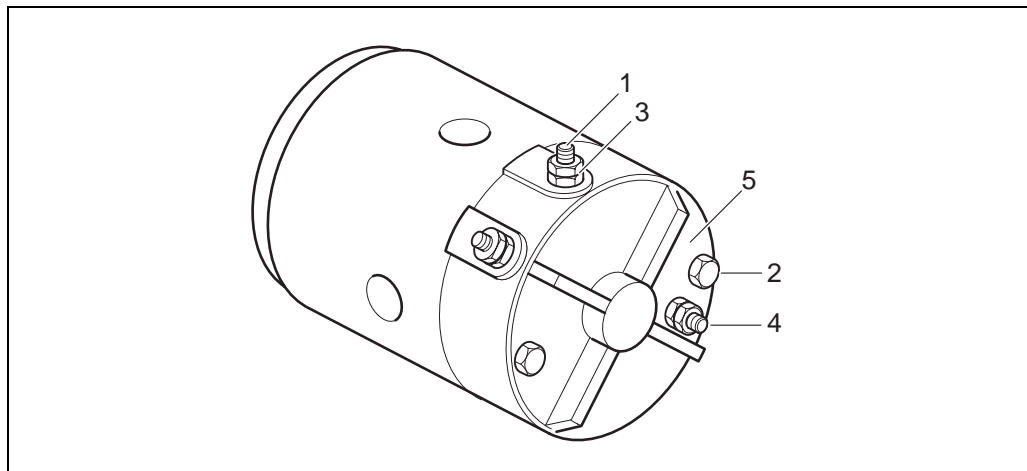

Figure 8.14
1. Release the cables from the terminals on the motor (pos. 1 figure 8.14).
2. Release the through bolts from the rear end head on the motor (pos. 2 figure 8.14).
5. Release the nuts on the terminals (pos. 3 figure 8.14). If the motor has a return earth cable the earth connection on the rear end head of the motor should also be released (pos. 4 figure 8.14).
6. Release the rear end head (pos. 5 figure 8.14). Make sure that the terminals remain in their positions.
11. Tighten the terminals to 10-14 Nm (pos. 3 figure 8.14).